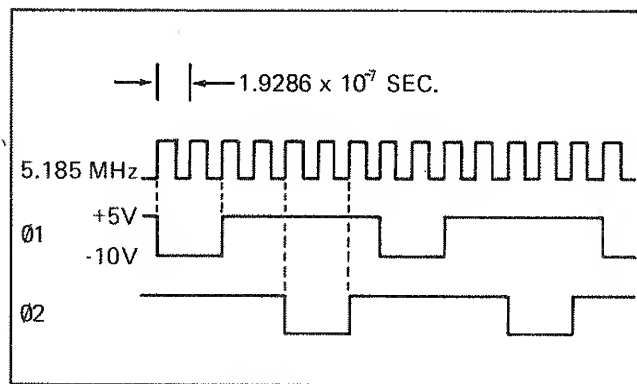

Figure 3-3. Two Phase Clock Timing Diagram
3-24. In operation, crystal Y1 provides the time base (1/5.185 MHz) for a free-running oscillator. Counter U4 divides the oscillator output by seven and presents its Q1 (2) and Q2 (4) outputs to gates U3B (01) and U3C (02) for decoding. The decoded outputs are then presented to U2 where the two TTL output signals are shifted to the +5 and -10 volt levels required by the microprocessor set. The timing of the 2-phase clock is shown in Figure 3-3.